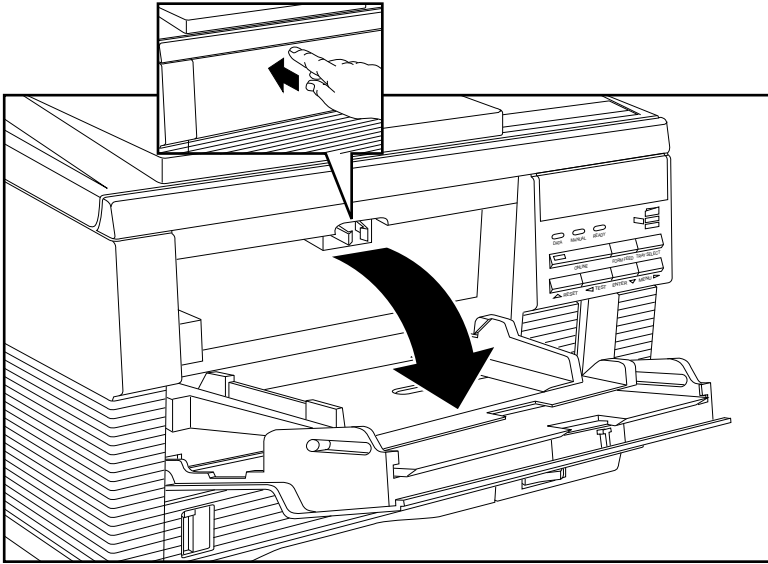

Fig. 6.3 Open the Fold Down Tray
1. Press and release the center top edge of the tray and ease the tray down (fig. 6.3), making sure to support the tray as it opens.